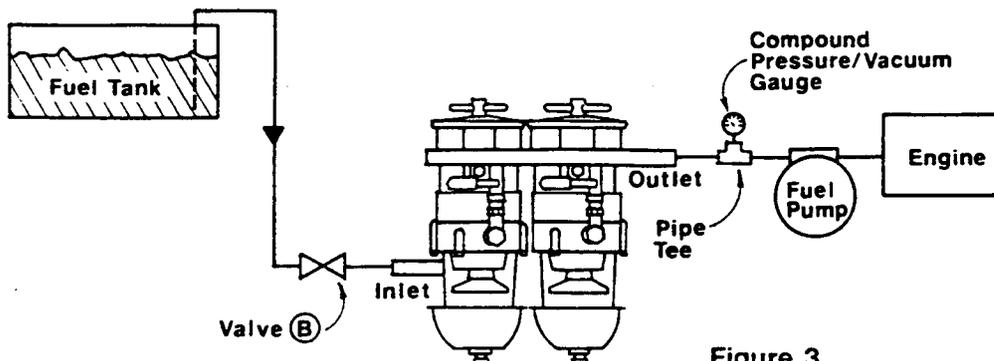

Figure 3
5. On a 75/900MA, 75/1000MA, or 79/1000 MA unit, a pipe tee with a compound vacuum/pressure gauge must be installed on the *outlet* side of the filter system. A valve must also be installed on the *inlet* side of the filter system. (See Figure 3 and Accessories Section.)
1. Check outlet gauge. If gauge reads 4 or more inches of vacuum (inHg) close the outlet valve of the unit to be serviced. (See Figure 3.)
18351 Manual Valve-1" NPT (See Fig. 3)